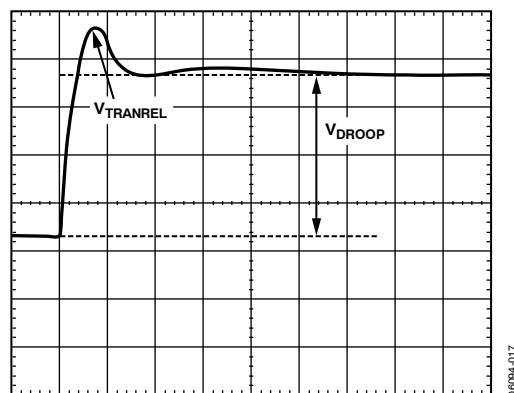

Figure 19. Transient Setting Waveform
20. For load release (see Figure 19), if  $V_{TRANREL}$  is larger than the allowed overshoot, there is not enough output capacitance. Either more capacitance is needed, or the inductor values need to be made smaller. When changing inductors, start the design again using a spreadsheet and this tuning procedure.